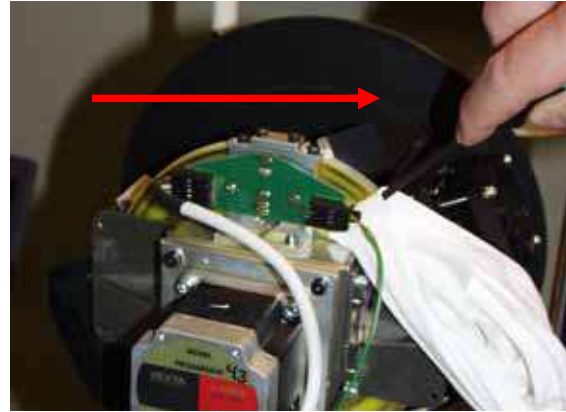

Figure 15, Circuit path
- Clean the circuit path as shown in **Figure 15**.